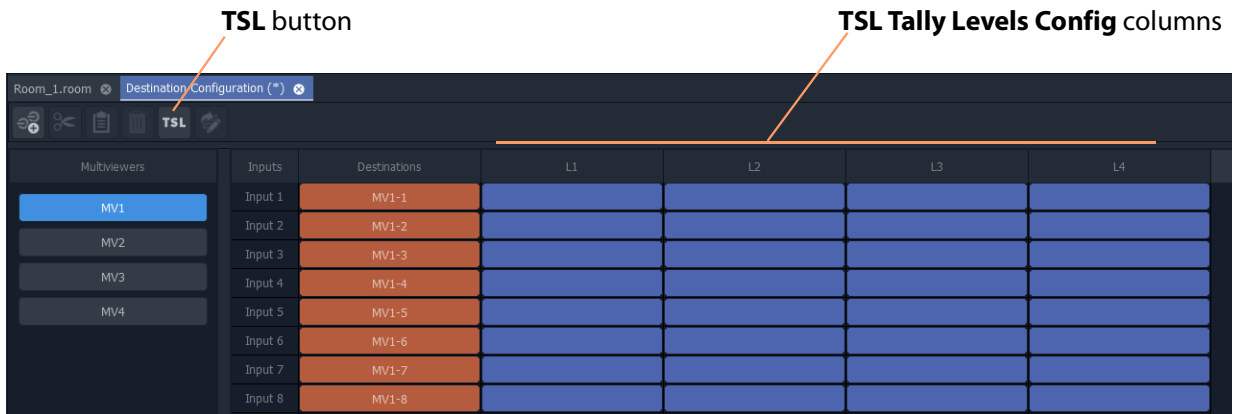

Fig. 9-2: Destination Configuration Tab - TSL Tally Levels Config Columns
- 2 Click on the **Configure Mapping** icon in the **Room Editor** tool bar. A **Destination Configuration** tab is opened. See Figure 9-2.